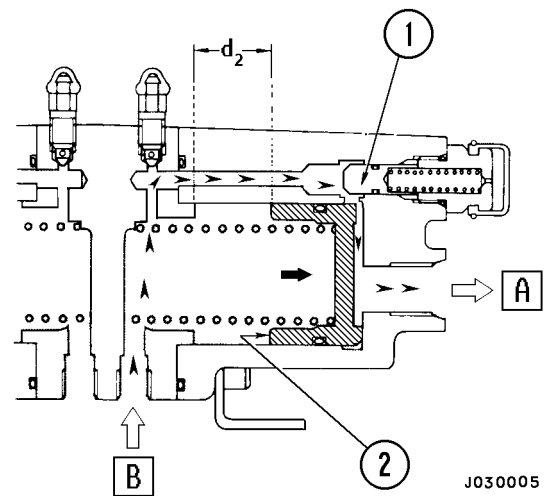

FIGURE 2-24. ADJUSTER FUNCTION
□ Adjuster function (Figure 2-24):